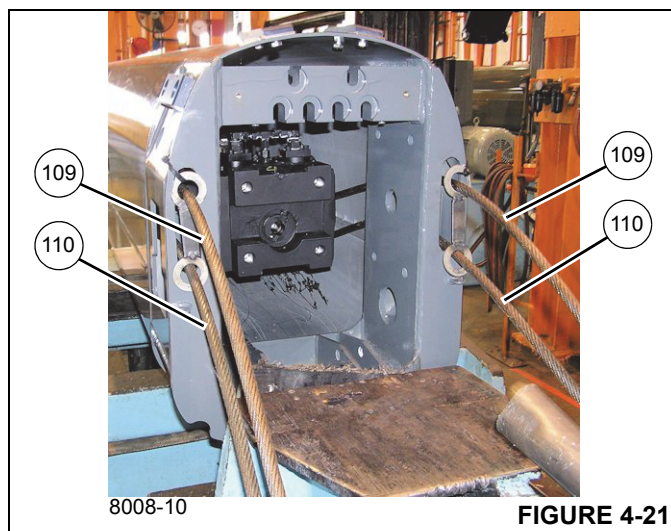

FIGURE 4-21
72. Remove the tele 4 extend cables (109, 110) from the slotted holes in the rear of tele 3 (4) (see Figure 4-21).